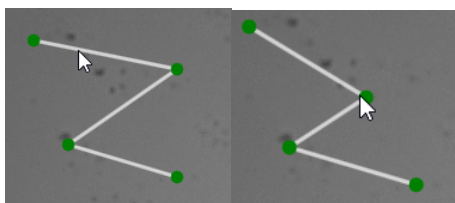

Figure 3-55 Selecting objects
5. Press **SELECT** to select and manipulate objects, see **Figure 3-55** below.